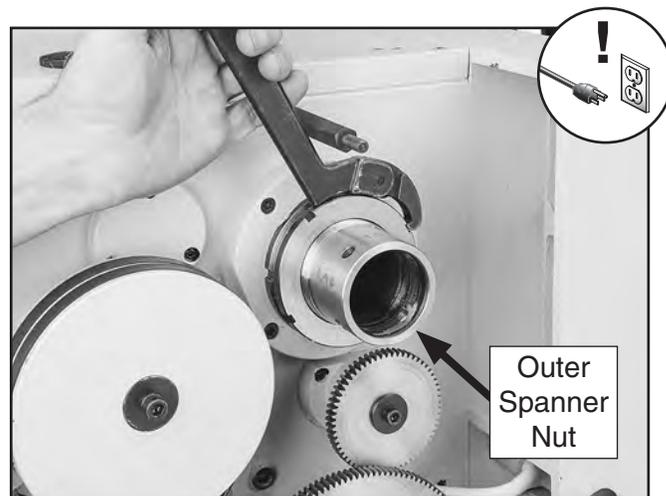

Figure 121. Loosening outer spanner nut.
6. Using a spanner wrench, or hammer and punch, rotate outer spanner nut (see **Figure 121**) counterclockwise and remove it.